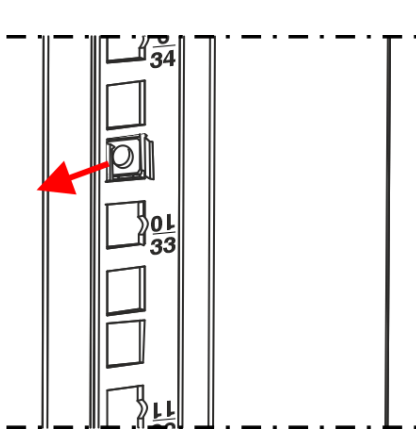
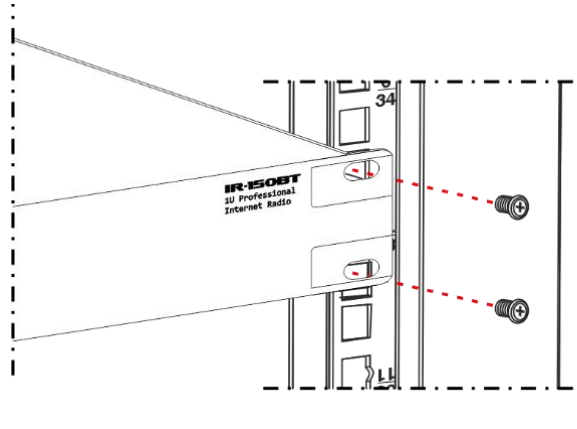

Fig. 28
Fig. 29
- 03) Press the other side of the **cage nut (A)** and push it through the hole, as shown in Fig. 28.
- 04) Repeat steps 2–3 to install the other 3 **cage nuts (A)**.
- 05) Put the equipment in front of the cabinet at the place where the 4 **cage nuts (A)** are installed. Make sure that the mounting holes on the equipment are aligned with the **cage nuts (A)**, as shown in Fig. 29.
- 06) Use a screwdriver to mount the equipment to the vertical brackets with 4 **screws (C)**.
- 07) Tighten the 4 **screws (C)** to make sure that the equipment cannot move.